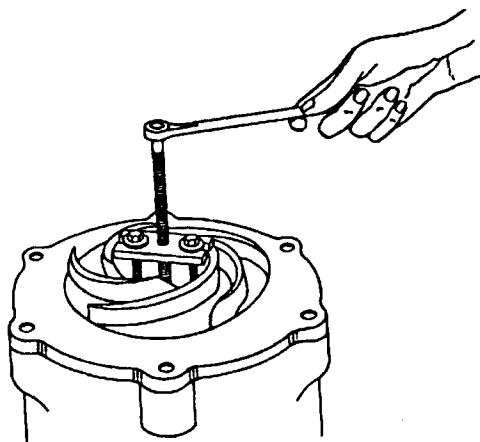

Figure 4. Removing Impeller With Puller
Remove the wood from the impeller vanes, and remove the capscrews (53) temporarily installed in the seal plate and lower motor housing. Refer to Figure 4, install the impeller puller supplied with the pump, and pull the impeller from the shaft. Use caution when removing the impeller; tension on the seal spring will be released. Retain the impeller key (52).